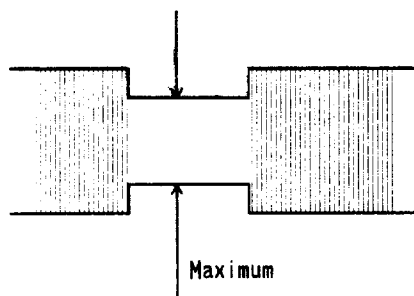

Fig. 2-9
3. Adjust the X value adjustment nut $\text{\textcircled{X}}$ for maximum PB FM signal for CH1 by using F6-N test tape (Refer to Fig. 2-9)